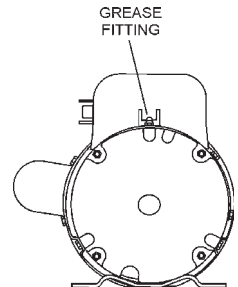

Figure 34. Grease Fittings Electric Motor
1. There are two grease (Figure 34) fittings at each end of the electric motor that will require lubrication. Lubricate these fittings about **every 16 months**.